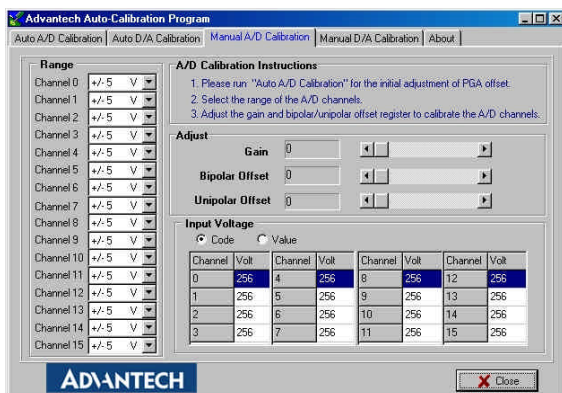

Fig. 5-14: Adjusting registers
Step 2: Depending on the difference between reference voltage and the received data in MIC-3716, adjust the gain, bipolar offset and unipolar offset registers (Fig. 5-14)